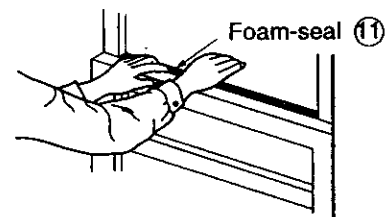

Figure 111
12. Cut the foam seal ⑪ to the proper length and insert between the upper window sash and the lower window sash. (See Figure 111)